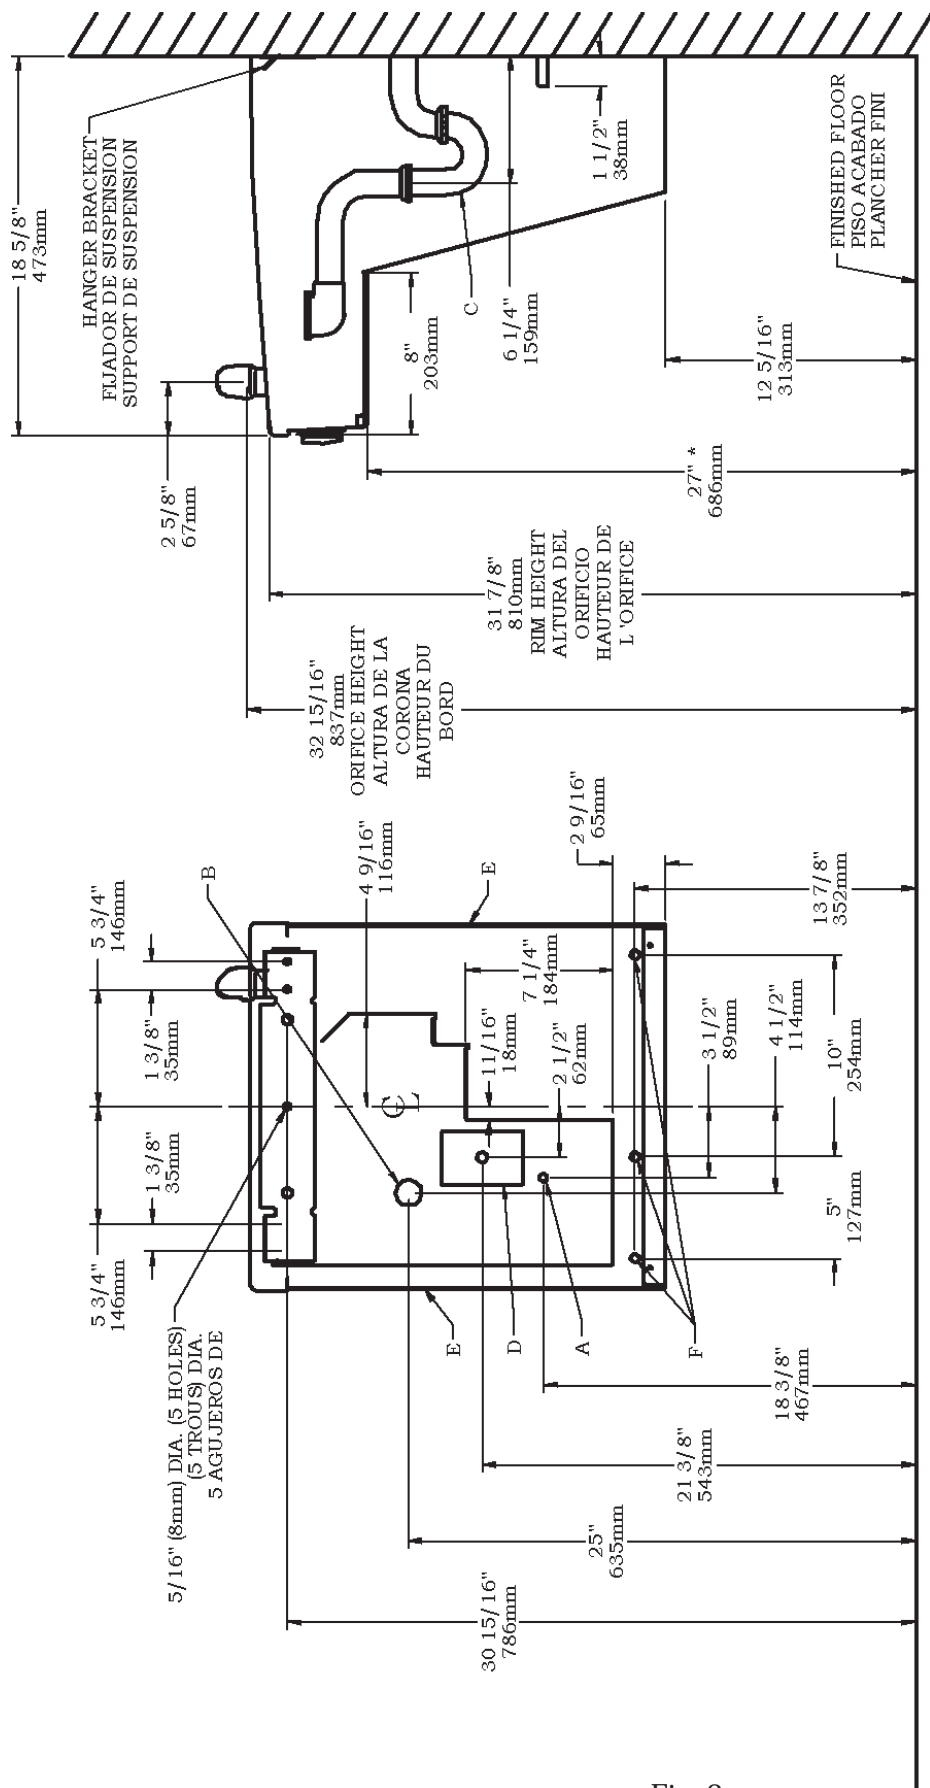

Fig. 2
- 1) Remove hanger bracket fastened to back of cooler by removing one (1) screw.
- 2) Mount the hanger bracket and trap as shown in Figure 2.
- Anchor hanger securely to wall using all five (5) 1/4 in. dia. mounting holes.
- 4) Hang the cooler on the hanger bracket. Be certain the hanger bracket is engaged properly in the slots on the cooler back as shown in Figure 2.
- 5) Loosen the two (2) screws holding the lower front panel at the bottom of cooler base and two (2) screws at the top (**Use torx bits sold separately**). Remove the front panel and set aside.
- 7) Remove the slip nut and gasket from the trap and install them on the cooler waste line making sure that the end of the waste line fits into the trap. Assemble the slip nut and gasket to the trap and tighten securely. Recommend fastening cooler to wall using 7/16 bolt holes. (see fig.2, "F")